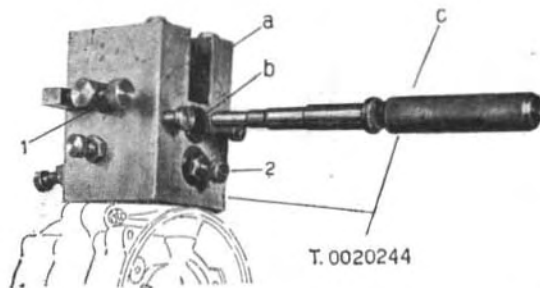

Fig. 100 - Centralizing the con. rod.
2. - Centralize and lock the con.rod by means of fixture shown in Fig. 100 as follows.